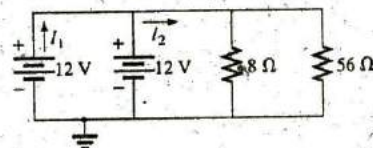

FIG. 6.107
38. Assuming identical supplies, determine currents I_1 , I_2 , and I_3 for the configuration in Fig. 6.107.